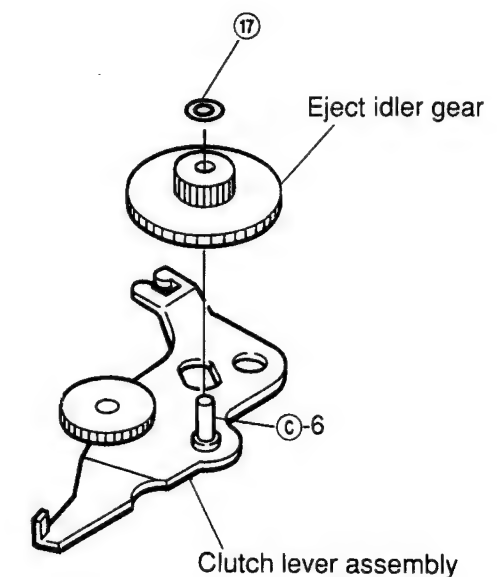

Figure 15
- (2) Remove M1.2 lock washer ⑰ and remove the eject idler gear as shown in Figure 15.
- (3) Mount the new gears and clutch lever following the removal steps in the reverse order.
Note: When mounting the gears to the lever, apply grease (PG-671) to the position ⑥ as shown in Figure 15. Align the position ⑦ with the position ⑧ and mount the clutch lever as shown in Figures 10 and 15.